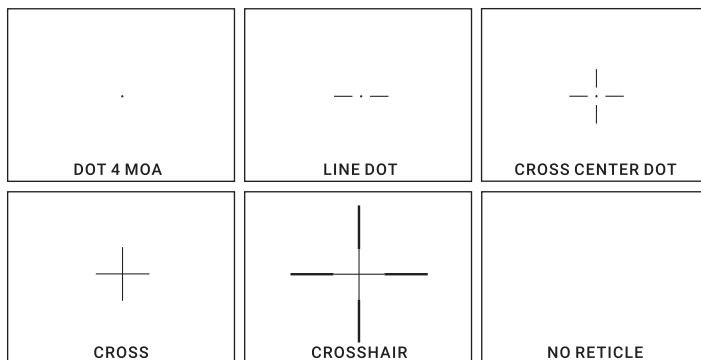

FIGURE 2-20. RETICLE PATTERNS
Push and hold button (4) to select from a choice of reticle patterns: Dot 4 MOA, Line Dot, Cross Center Dot, Cross, Crosshair (Figure 2-20).